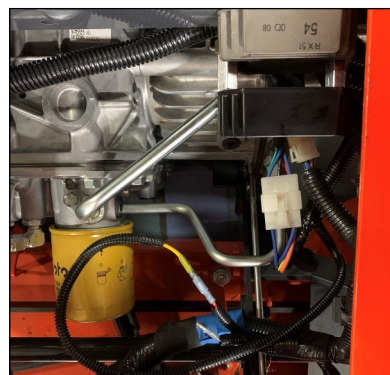

Fig. 7.9 (Connect Regulator)
- 7.9 See fig. 7.9. Connect the white connector on the harness to the mating connector on the secondary